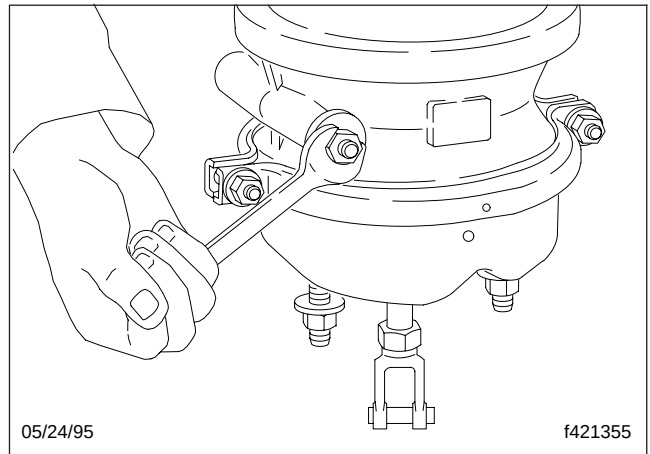

Fig. 7, Tightening the Release Nut
5. Using a hand wrench (*don't use an impact wrench*), install the release bolt, flatwasher, and release nut in the storage pocket. MGM recommends 10 lbf·ft (14 N·m) torque on the nut against the flatwasher. See Fig. 7.